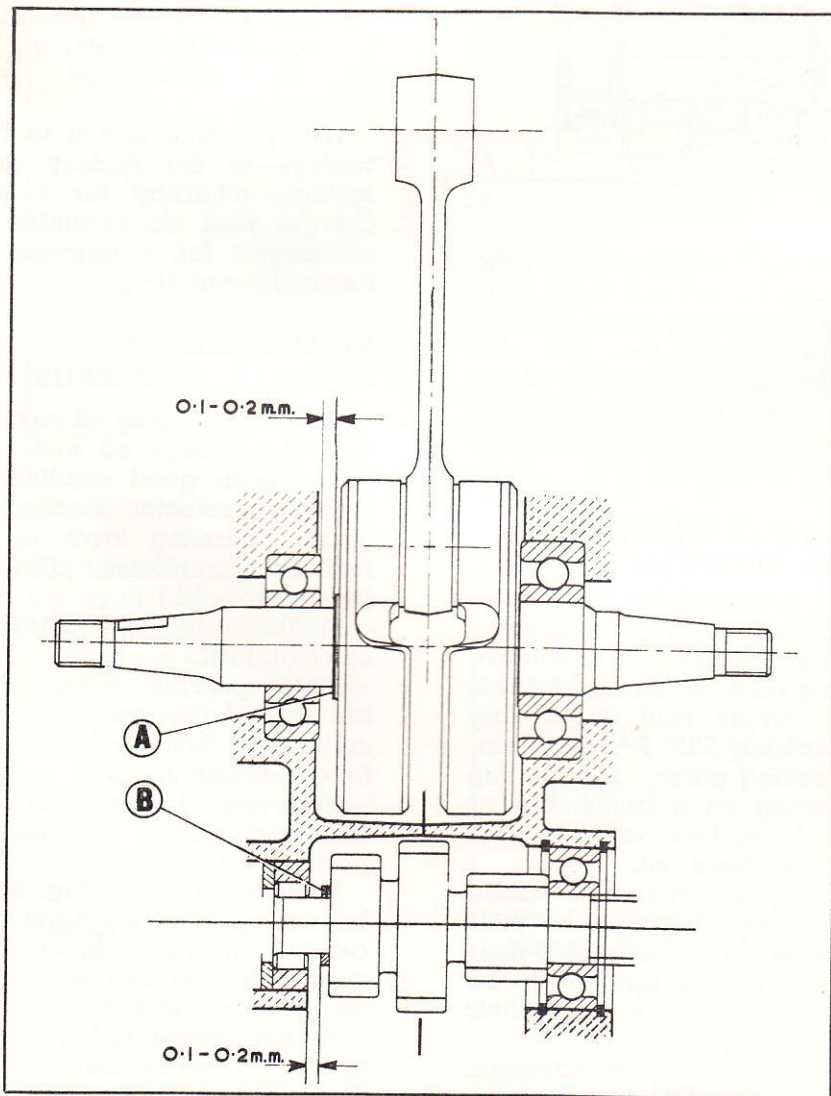

Fig. 38
Place the shim (B, Fig. 38) on the left-hand end of the input shaft and carefully fit the shaft, ensuring that it meshes correctly with the gears on the output shaft.*
***NOTE** :—If a new crankshaft, gearbox input shaft or input bearing track are fitted, it may be necessary to fit shims of greater or lesser thickness to the crankshaft or input shaft in order to achieve the correct end play. The correct end play of these shafts in the crankcase should be between 0.1 and 0.2 mm. (See Fig. 38.) (See spares list for selection of shims available.)